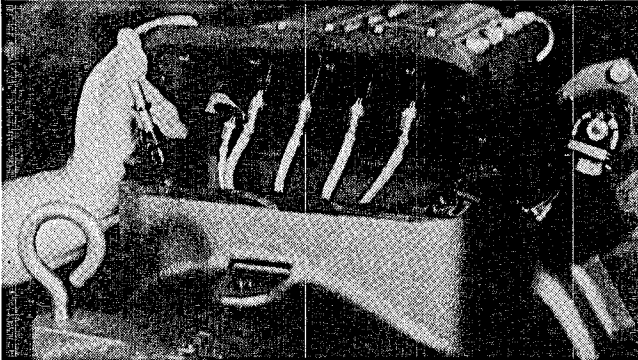

Figure 34
5. Remove the terminal plate and gasket, working the terminal studs out of the plate carefully to avoid damage (Figure 34).